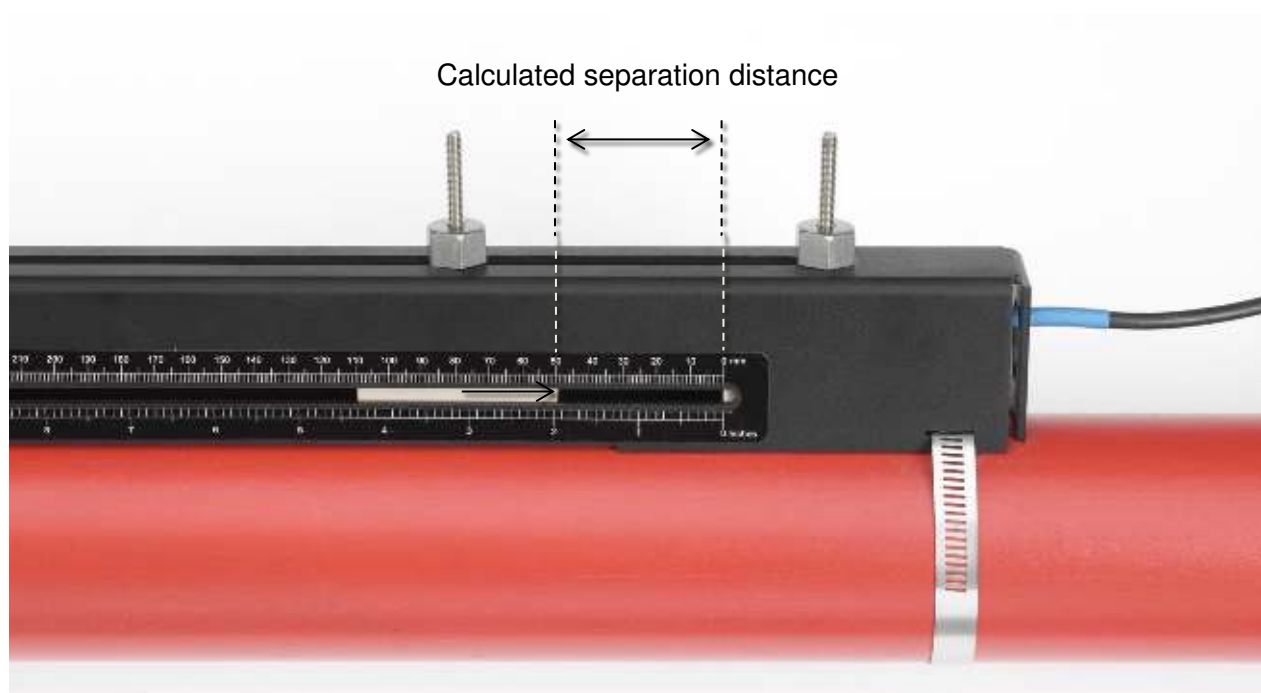

Figure 16 **Setting transducer separation**
9. Position the upstream transducer so that the inner face of the transducer is set to the required separation distance on the ruler, as shown in Figure 16.